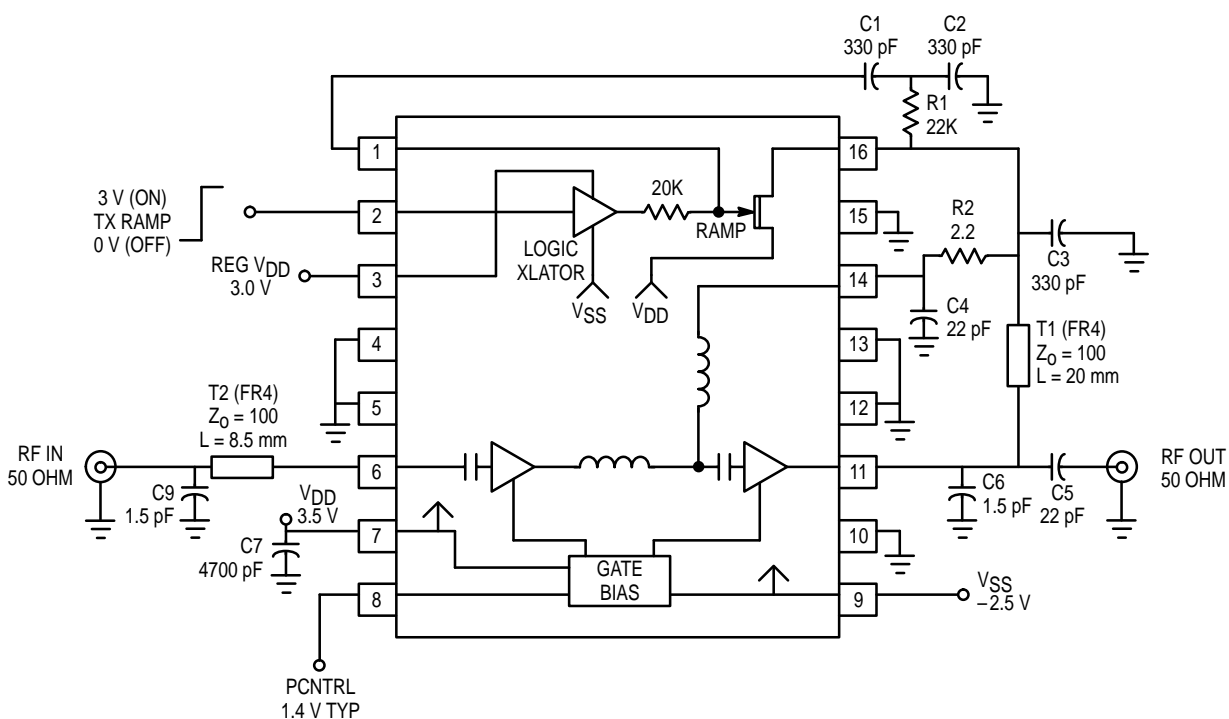

Figure 2. Applications Circuit Details for DECT using Internal Logic Translator
**DECT Application with Internal Logic Translator** (See Figure 2.  $V_{DD} = 3.5$  V, REG  $V_{DD} = 3.0$  V,  $T_A = 25^\circ\text{C}$ ,  $V_{SS} = -2.5$  V, TX RAMP = 3.0 V, PCNTRL set for Quiescent  $I_{DD} = 120$  mA,  $P_{IN} = -3.0$  dBm @ 1.9 GHz unless otherwise stated.)
As can be seen in Figures 2 and 3, the off-chip matching is straight forward. At frequencies near 1.9 GHz, the input requires 4.7 nH in series and 1.5 pF in shunt. The 4.7 nH series inductance may be implemented with a high-impedance transmission line as shown. The output, being close to 25  $\Omega$ , requires only a shunt 1.5 pF capacitor. Drain voltage for stage 1 is supplied through pin 14 and for stage 2 through pin 11, the RF output. Pin 8, PCNTRL is used to set the quiescent bias point for both stages. While nominal  $I_{DDQ}$  is 120 mA, it can be set as high as 180 mA for better linearity or lower for better efficiency. 120 mA is a good compromise for DECT and PHS. DECT, which employs GMSK constant envelope modulation can use RF amplifiers close to or in saturation without experiencing spectral regrowth of the signal. PHS, on the other hand, employs  $\pi/4$  DQPSK modulation which has some residual AM associated with the encoding. With AM present, RF amplifiers must be backed off from saturation so as not to regrow the filtered sidebands. The MRFIC1806 has plenty of backoff capability for PHS where the MRFIC1807 PA/switch must only produce about +21 dBm. With the 8.0 dB gain of the MRFIC1807, the MRFIC1806 need only produce +13 dBm output so the bias point can be reduced below the 120 mA suggested for DECT.
The on-chip ramp circuit can be used to control the amplifier attack and release time for DECT applications through the use of a few external components as shown in Figure 2. This ramping is required to control the burst signal rise and fall time to avoid adjacent channel interference. At the same time, system specifications require the transmitter to reach full power in a minimum time. For DECT, it has been shown that a rise time of not greater than 2 microseconds will produce acceptable adjacent channel performance. The system requires full power in not greater than 10 microseconds. A good compromise, and the timing implemented in Figure 2, is 7 microseconds.